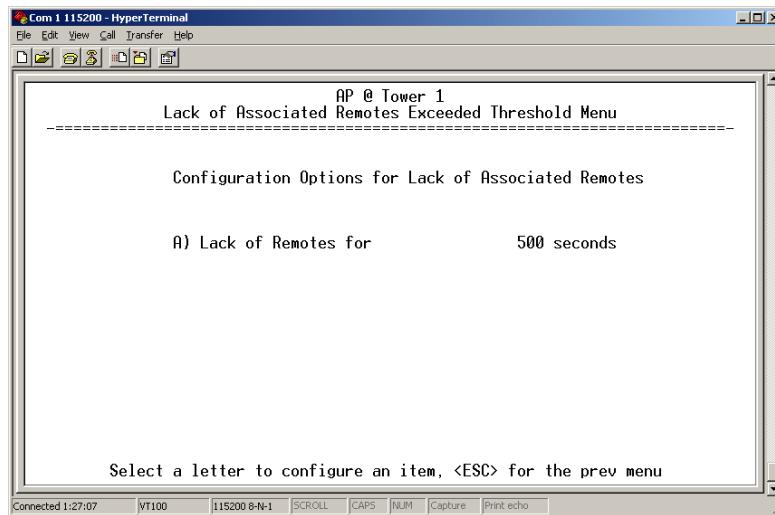

Figure 3-77. Lack of Associated Remotes Exceeded Threshold Menu
- **Lack of associated remotes exceeded threshold**—This setting determines whether or not a switchover occurs when a lack of associated Remote units exceeds the time period set in Figure 3-77 on Page 108. [enabled, disabled; disabled]
- **Lack of Associated Remotes Exceeded Threshold**—This selection opens a submenu (Figure 3-77) where you can view or change the time period allowed for a lack of associated Remotes.